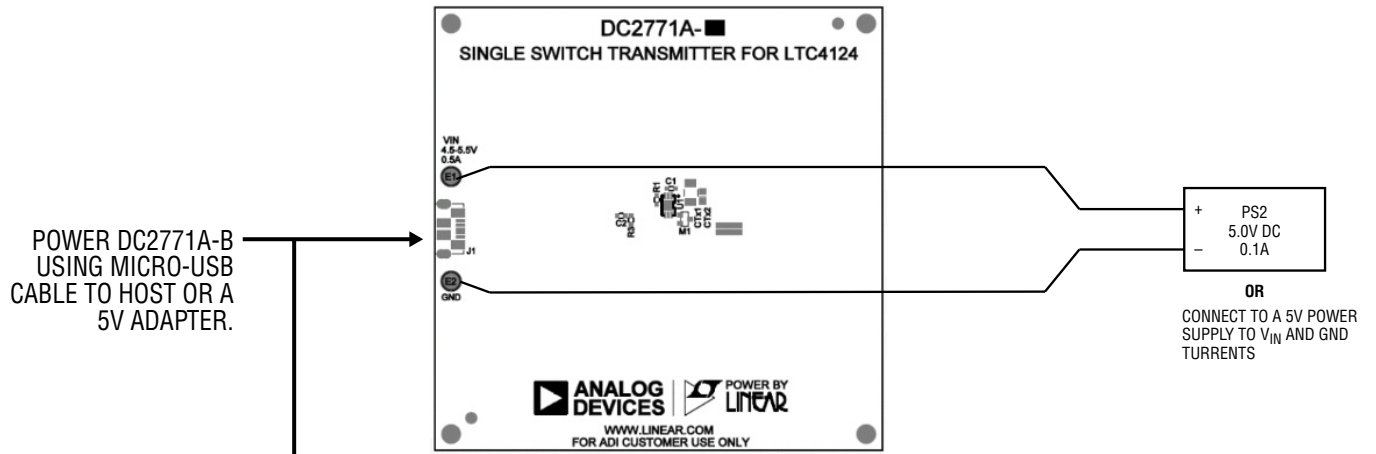

Figure 5. DC2771A-B Top
1. Plug a Micro-USB cable into DC2771A-B.J1 connector, with the other end of the cable connected to a computer USB port or a 5V USB power adapter. The demo may also be powered by a 5V supply PS2 connecting between V_{IN} and GND turrets (Figure 5).